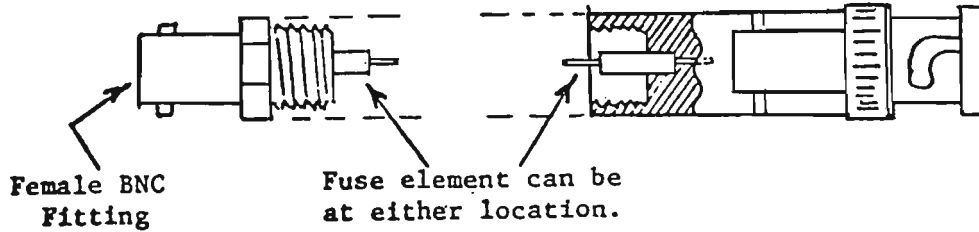

Figure 4-1. RF Fuse Disassembly
- c. After the BNC female fitting has been removed, the fuse element will be available for removal from either portion of the fuse assembly, see Figure 4-1. Remove the fuse element by hand or with pliers.